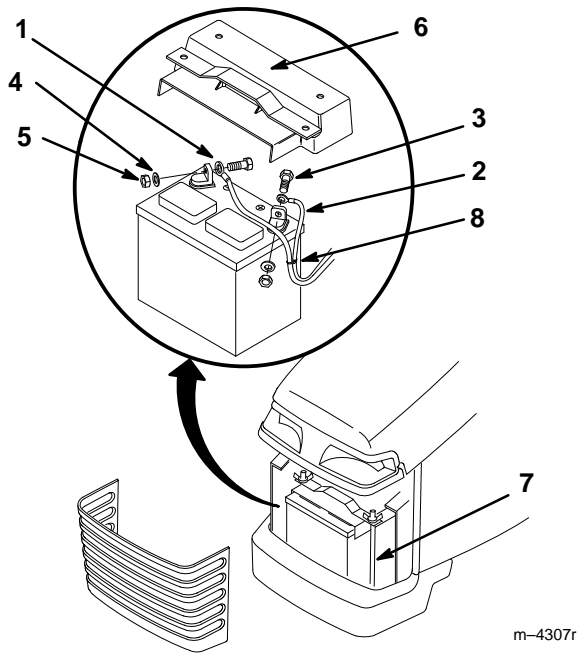

Figure 57
3. Remove the battery shield (Fig. 57).
4. Disconnect the negative (black) ground cable from the battery post (Fig. 57).
5. Disconnect the positive (red) cable from the battery post (Fig. 57).
1. Place the battery onto the chassis (Fig. 57).
2. Using the bolt, washer and locknut, connect the positive (red) cable to the positive (+) battery post (Fig. 57).
3. Using the bolt, washer and locknut, connect the negative (black) cable to the negative (–) battery post (Fig. 57).